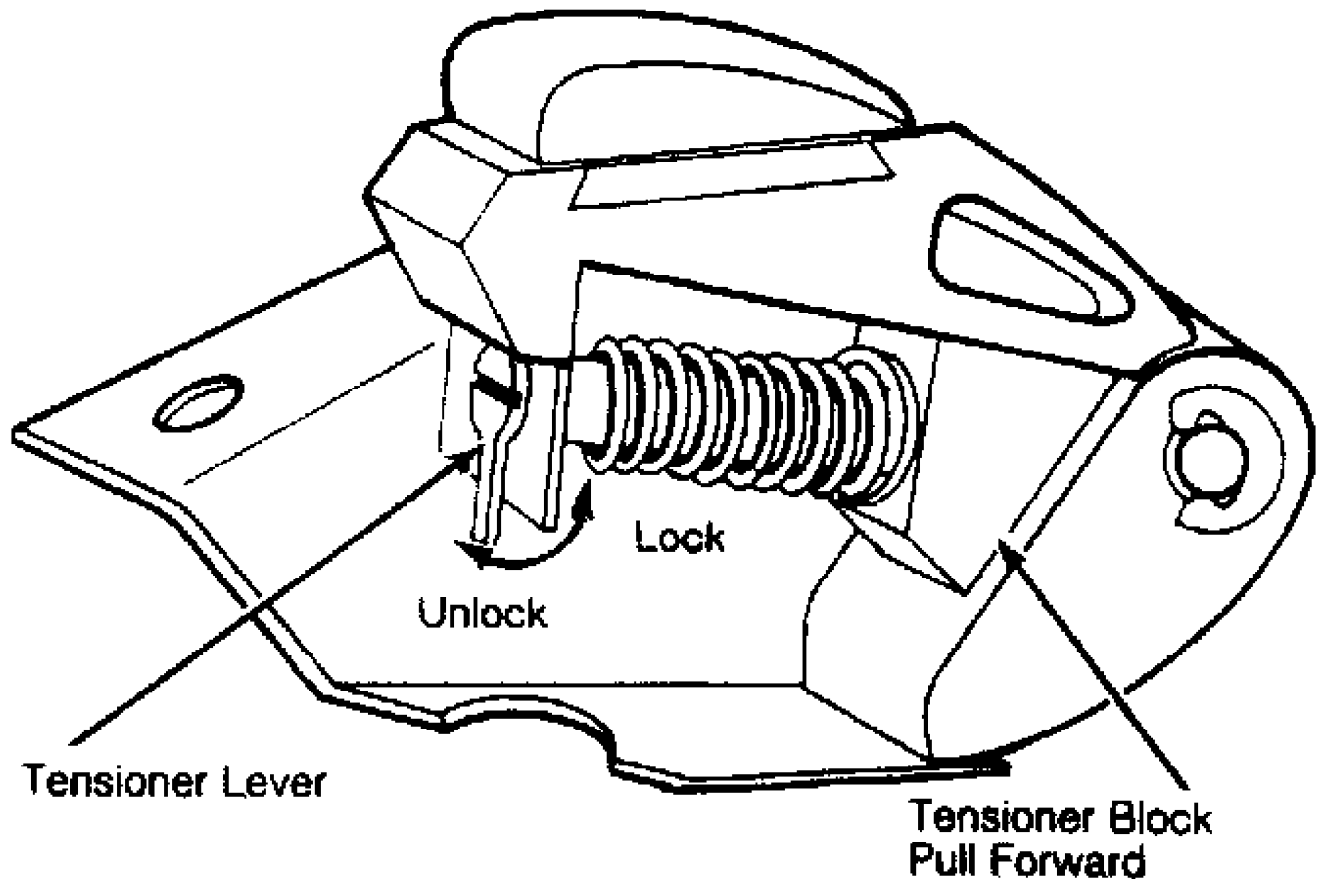

Fig. 5: Locating Chain Tensioner Lock
1) Turn tensioner lever down to unlock position. Pull tensioner block toward lever to compress spring. Turn lever up to lock position. See Fig. 5. Install timing chain and sprockets as an assembly. Ensure timing marks align. Install camshaft sprocket retaining bolt and washer. Tighten to specification. See the TORQUE SPECIFICATIONS table.